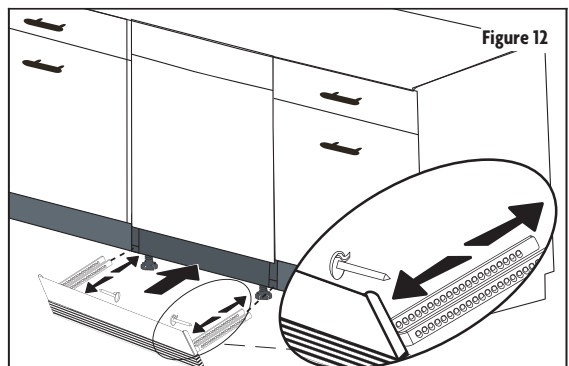

Figure 12
2. The number of adjustable plinth pieces to use is determined by the height to the bottom of the counter-top (Figure 12).
- b. Secure the toe kick to the plinth pieces using the Plinth Fixing Brackets (Figure 12).